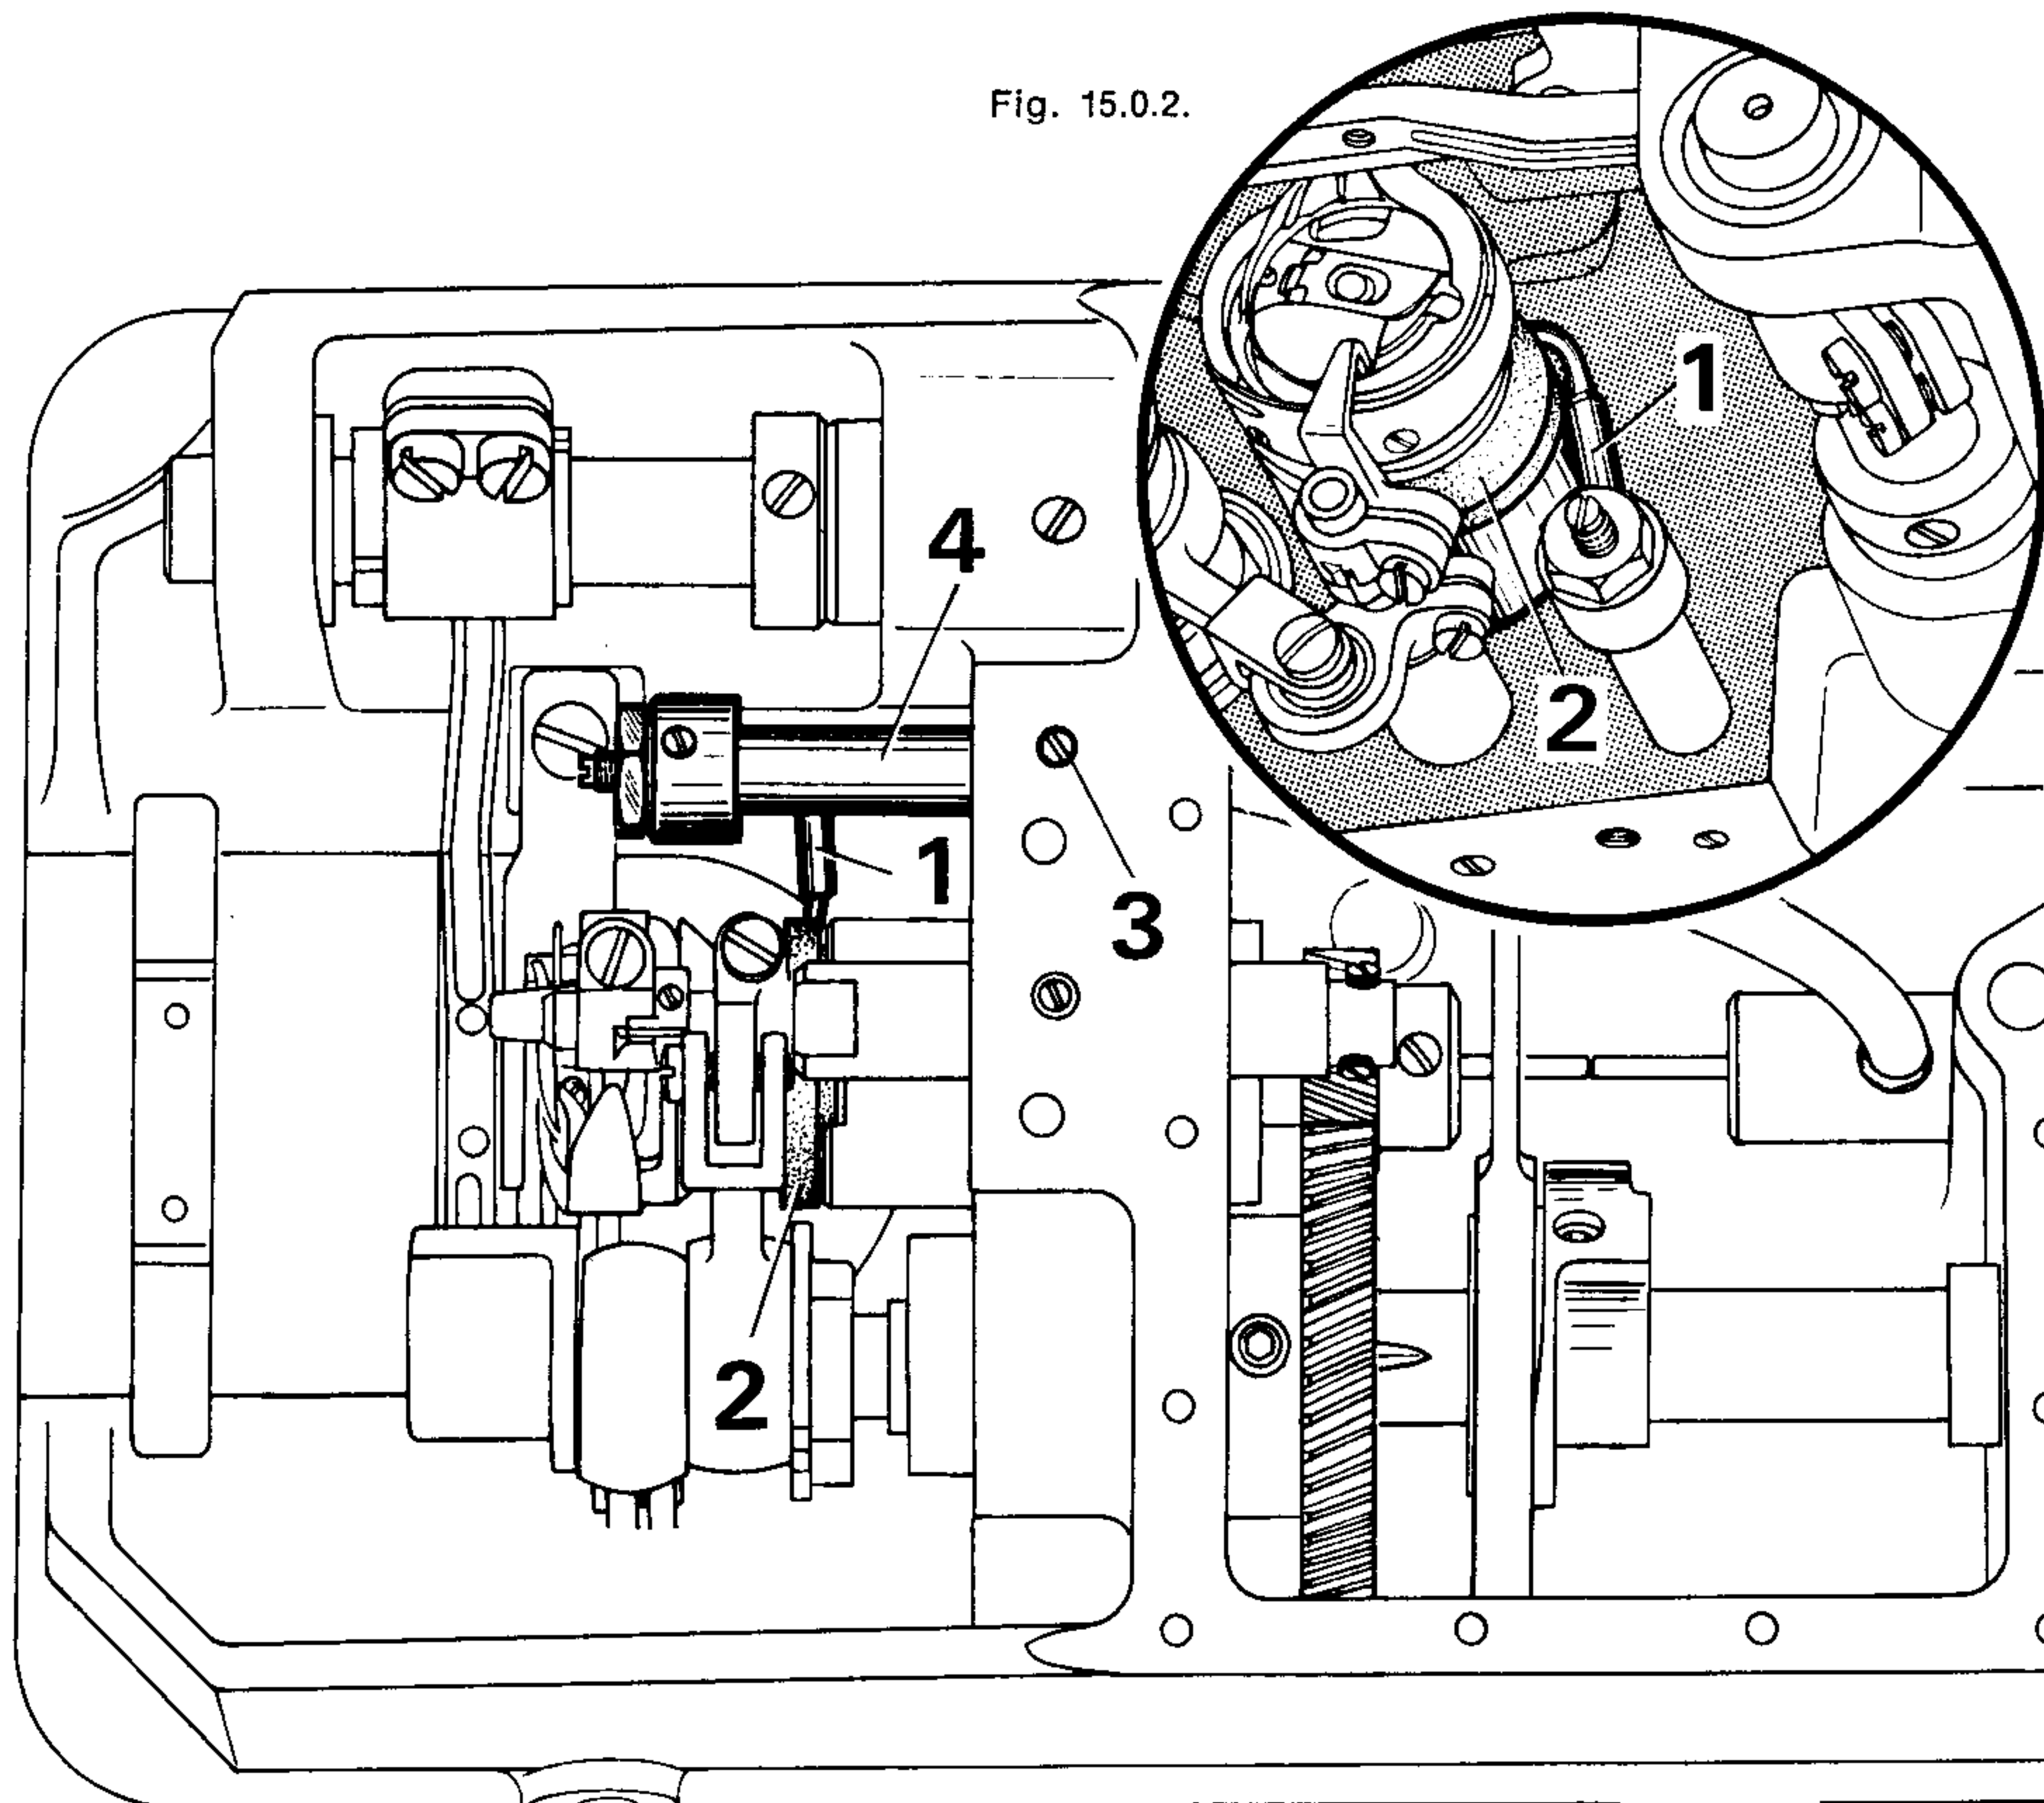

Fig. 15.0.1.
- 15.2. Tighten screw 3 of oil regulating valve 4 (Fig. 15.0.1.).